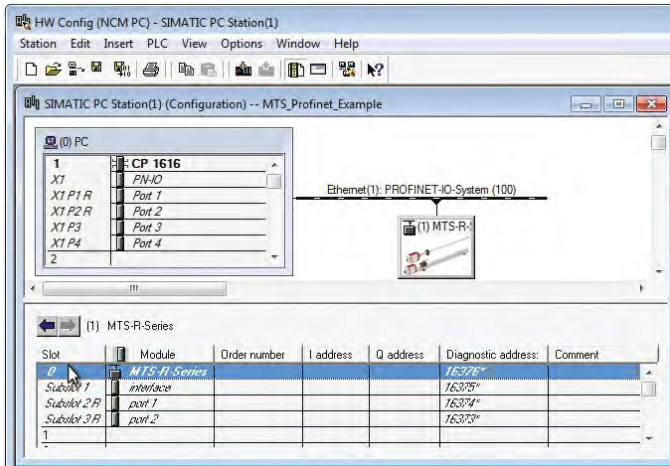

Fig. 64: HW Config-Window (Source: Siemens)
4. Double-click Slot “0” to open a configuration dialog box (Fig. 64).